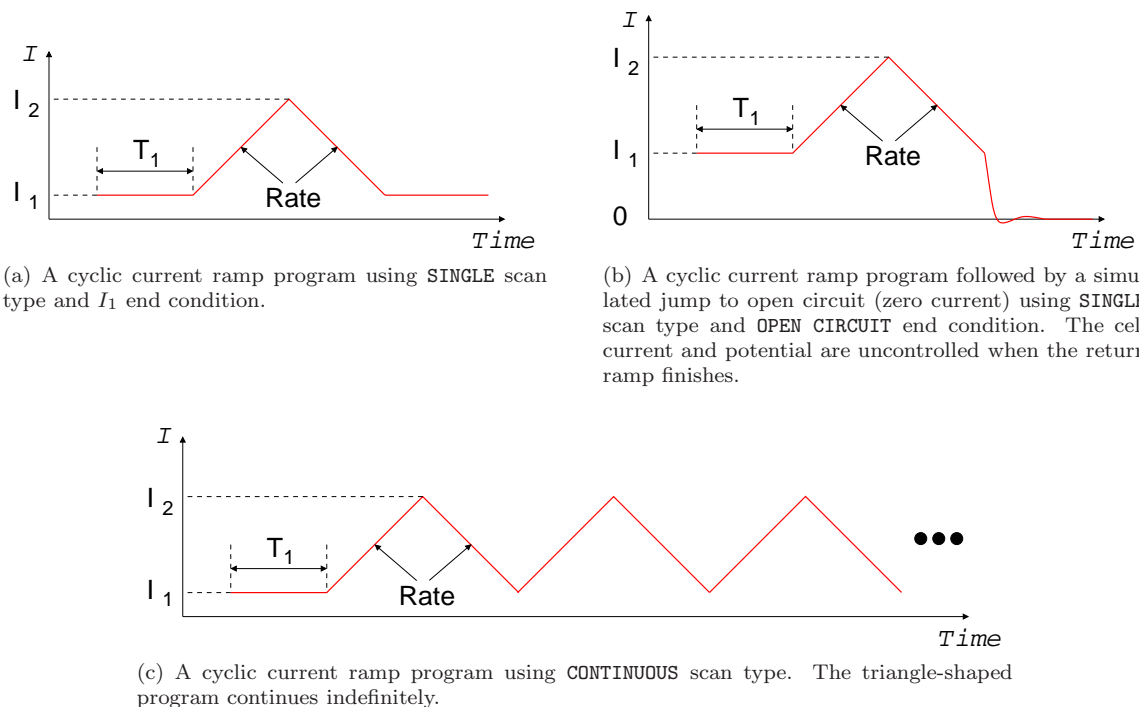

Figure 23: Parameters used to set up a cyclic current ramp scan.
Figure 23 illustrates the parameters needed to specify a cyclic current ramp scan. The procedure is as follows:
3. Choose the scan end condition. Figure 23(a) illustrates the cell current for the I_1 end condition, while 23(b) shows it for OPEN CIRCUIT.
4. Choose SINGLE or CONTINUOUS scanning. Single scans, illustrated in figures 23(a) and (b), go to the end scan condition after reaching I_1 on the return ramp. Continuous scans, illustrated in figure 23(c), immediately turn around to repeat the forward ramp and then the entire triangle-shaped waveform.